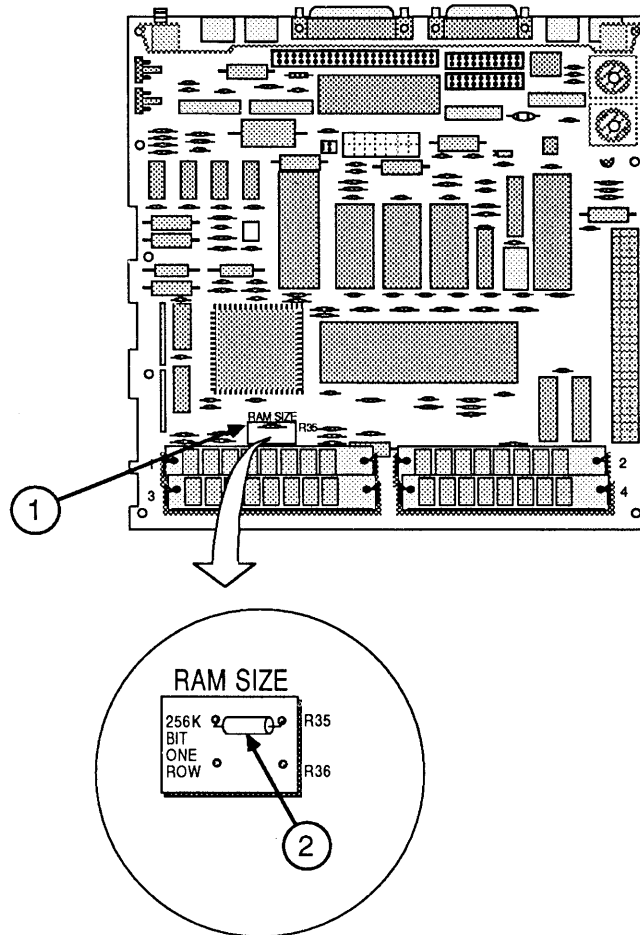

FIGURE 8
1. **Solder-type logic board**—Locate the area on the logic board identified by Figure 8, #1. On one version of the Macintosh SE logic board the area is labeled "RAM SIZE," and may have a R35 or R36 resistor (Figure 8, #2) soldered to the logic board. Refer to "Macintosh SE Solder-Type Logic Boards" for more information.